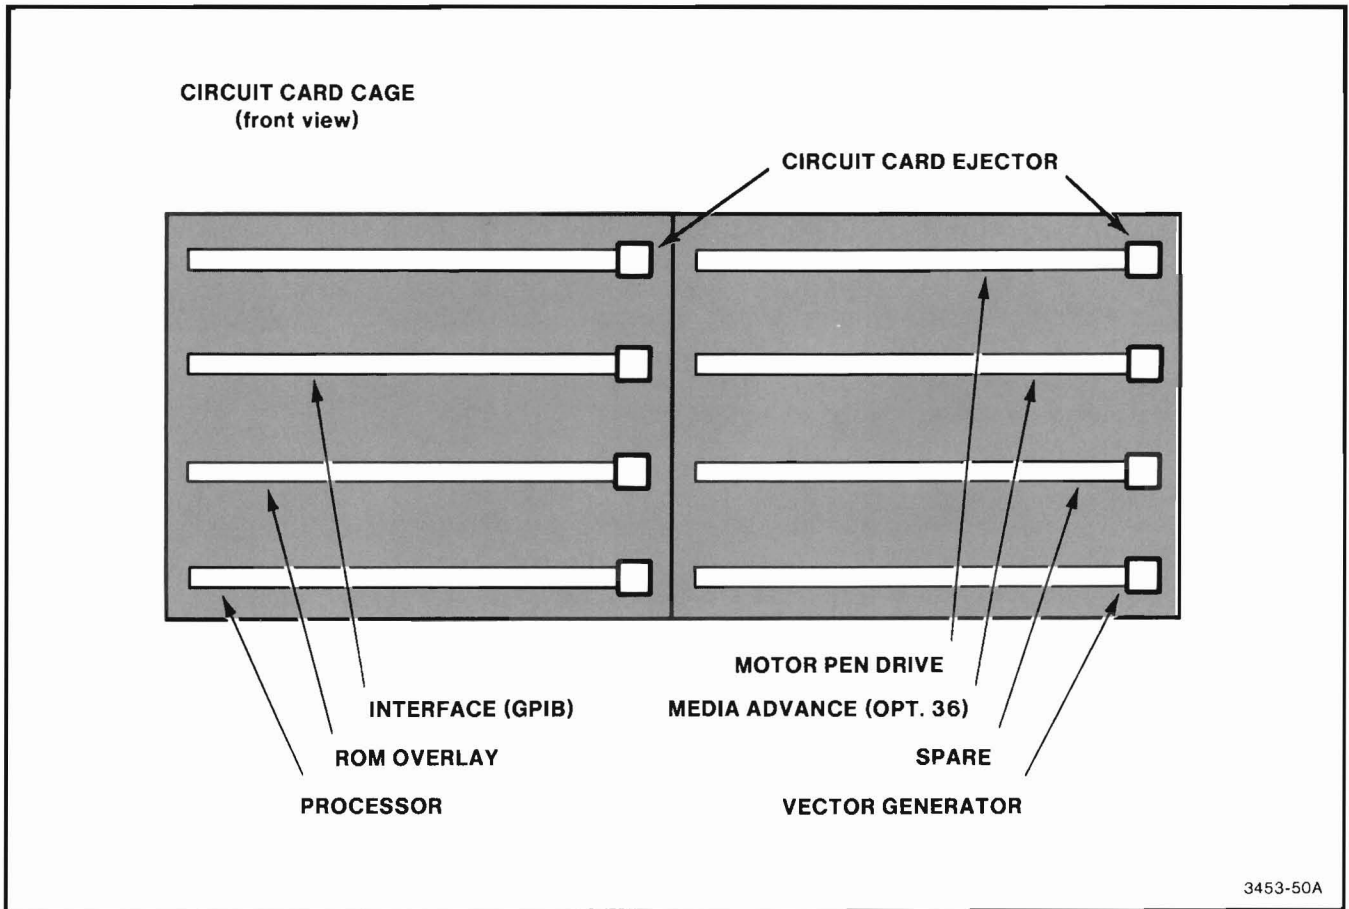

Figure A-5. Circuit Card Locations in Circuit Card Cage.
3. Rearrange the circuit cards in the left side of the card cage according to Figure A-5. Notice that if there is no ROM Overlay circuit card, the cards underneath may be moved up. In this case, the Serial Interface circuit card will become the top card, if present.
3. Insert the Media Advance circuit card into a vacant slot. Normally the Media Advance circuit card is inserted in the slot next to the top on the right side of the circuit card cage (see Figure A-5). Push firmly until the card seats.